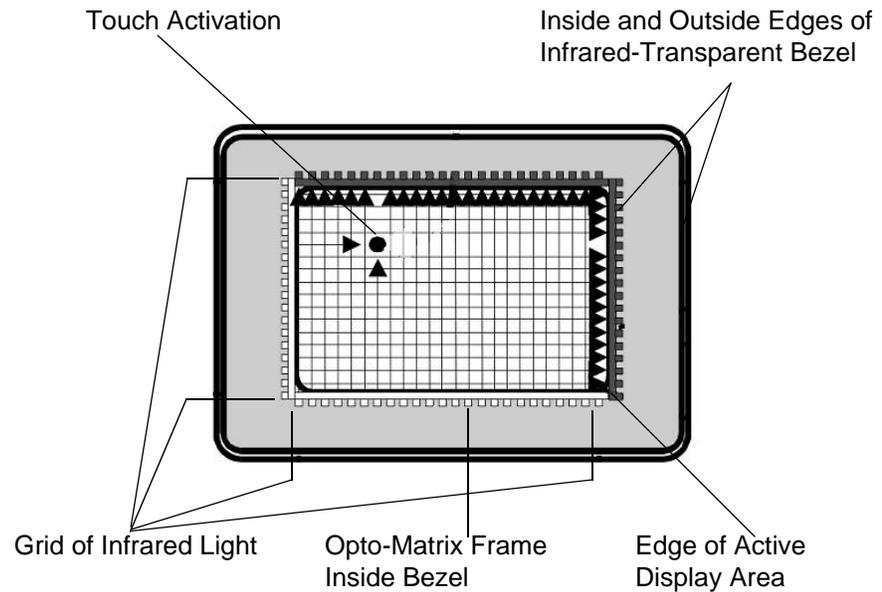

Figure 1-1. Scanning Infrared Technology
The operation of all scanning infrared (IR) touch systems is based on the creation of a grid of IR light beams above the viewing surface of a CRT monitor or flat panel display and the recognition of the location at which individual beams within the grid are interrupted. To create such a grid, IR light emitting diodes (LEDs) are paired with phototransistors, each set constituting an opto-pair or physical beam, to create a horizontal (x-axis) and a vertical (y-axis) array of beams. The two arrays of beams and their circuitry make up an opto-matrix frame, as shown in Figure 1-1.